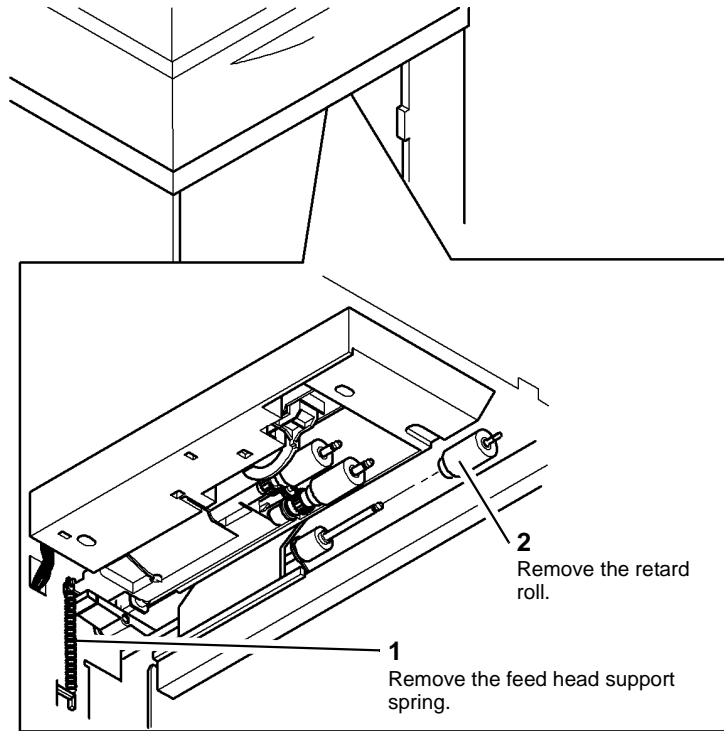

Figure 3 Spring and retard pad removal
6. Remove the feed head support spring and retard roll, Figure 3.